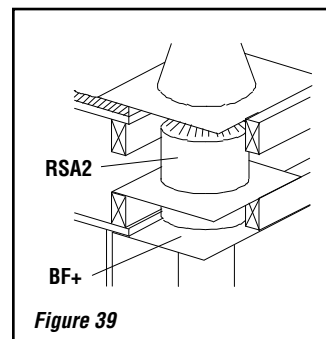

Figure 39
Step 6. At the attic level, install a firestop (BF+), from below and an attic radiation shield (RSA2) from above (see **Figure 39**).
Step 7. U.S. ONLY: Install the roof radiation shields in the roof joists. These shields consist of four metal plates. Nail one plate to each side of the joist using (2) 2-1/2" nails.